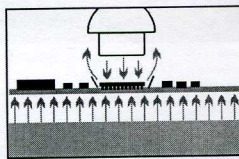

Figure 1
4. The heating element (or top heating) is generally used for gas nozzle, carefully control of the top heating element, make components uniform heat, is extremely important, especially critical for small components (Figure 1).